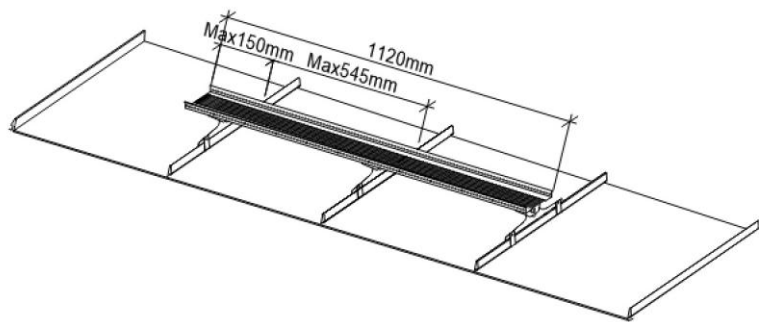

Figure 1.
- Attach the roof footbridge to the tilt adjustment plate using 2 M10x16 screws with a nut and washer. The maximum distance between RP-bracket plates and platform ends is 150 mm (Figure 1).